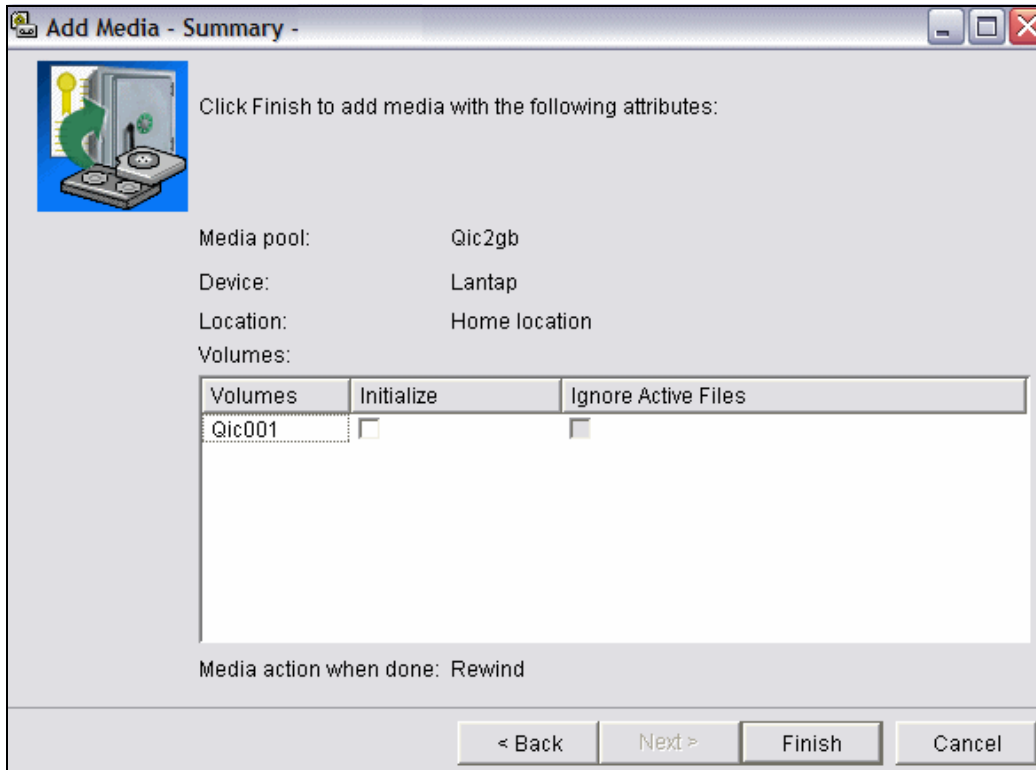

Figure 7-91 BRMS duplicating volumes, add physical media - summary
7. As there is nothing else to be done, in the Summary window shown in Figure 7-91 on page 414, click **Finish**.
8. Click **Finish** in Figure 7-91 to return to the window where you started, as shown in Figure 7-92 on page 415. Press F5 for refresh.